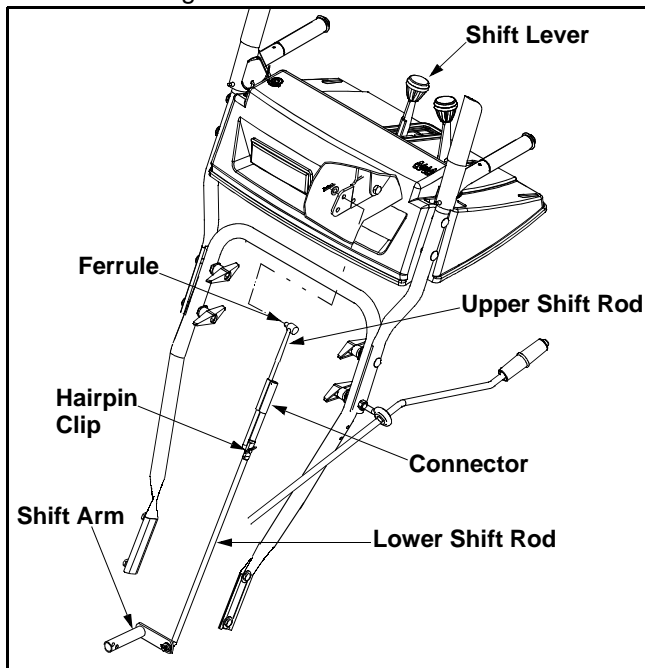

Figure 10
- Remove the hairpin clip and slide the connector up to separate the upper shift rod from the lower shift rod. See Figure 10.